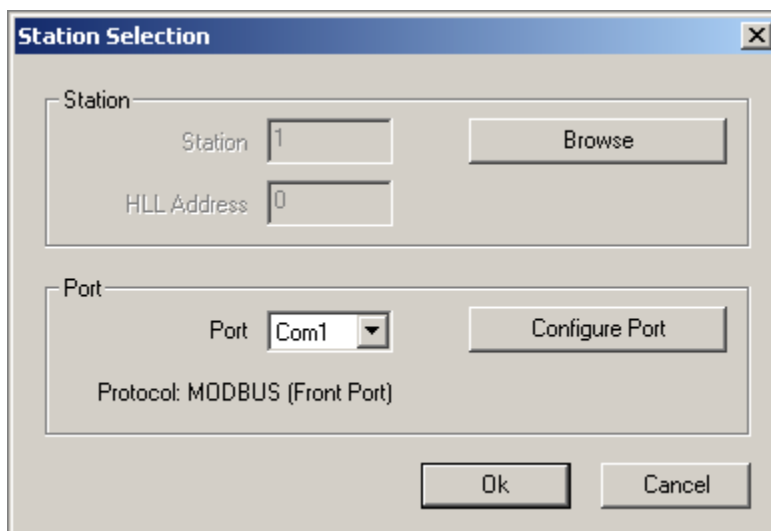

Figure 7-14 Station Selection dialog
1. Select **File > Compare Files > Upload to File**. The Station Selection dialog appears. See Figure 7-14.
1. Select **File > Print Setup**. The Page Setup dialog displays as shown in Figure 7-14.